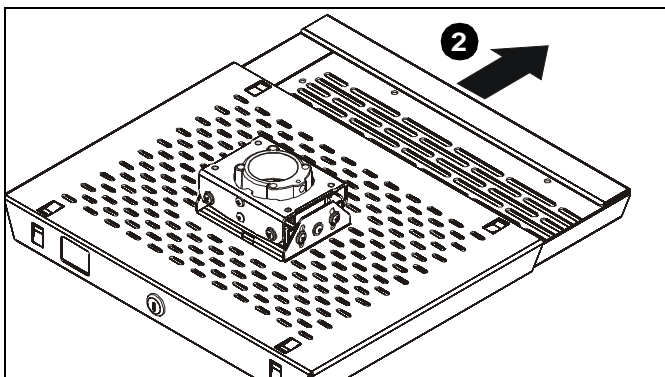

Figure 1
2. Remove drawer from RPAX1 outer sleeve. (See Figure 1)